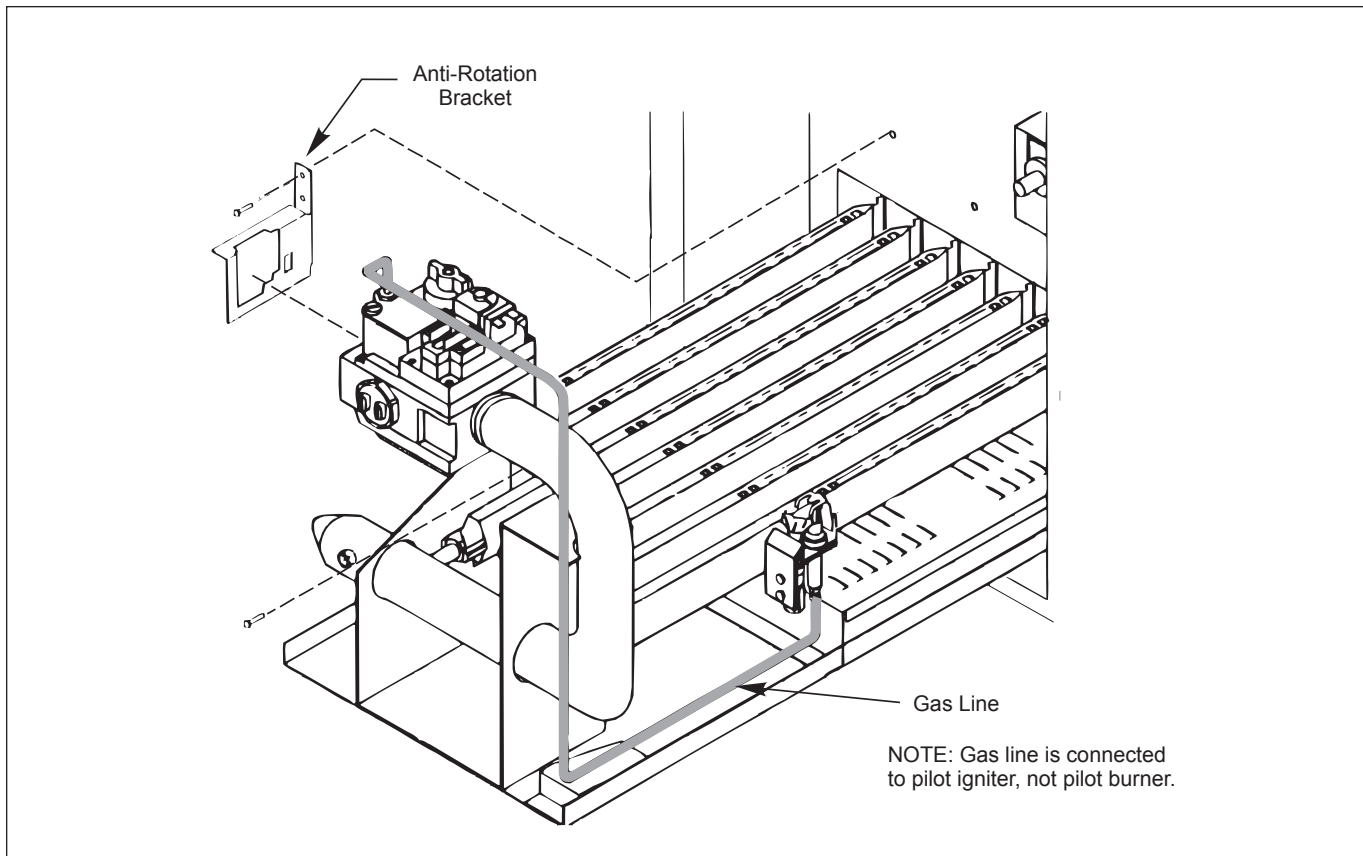

Figure 32. Gas valve/burner replacement.
4. Disconnect the service union in the gas line, and unscrew the main gas pipe from the gas valve (see Figure 32).
5. Remove the two screws that fastens the anti-rotation bracket on the left side of the gas valve (see Figure 32), and the three screws attached to heater.
8. Pull the burner tray out of the heater (see Figure 32).
15. Install the anti-rotation bracket to the inner panel and fasten with two screws (see Figure 32), and the three screws to heater.
16. Connect the service union in the gas line, and screw the main gas pipe to the gas valve (see Figure 32).